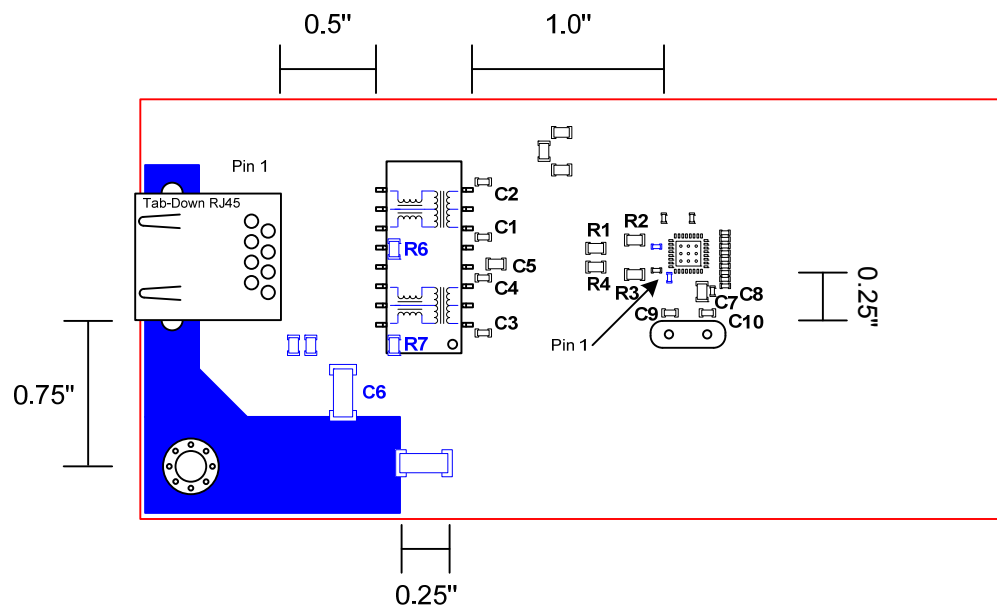

Figure No. 2
3. See Figure No. 2 below for minimum distance requirements related to the RJ45 connector, the magnetics and the LAN8740 Phy.
2. See Figure No. 2 for distance requirements related to the LAN8740 Phy. The crystal and associated components should be located within 0.25" of the LAN8740.